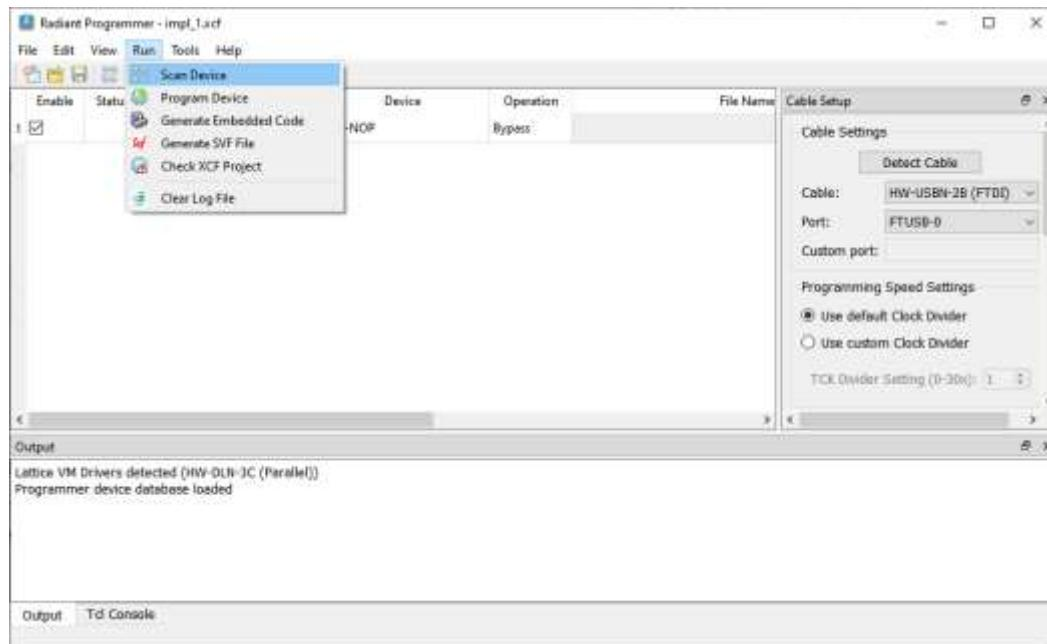
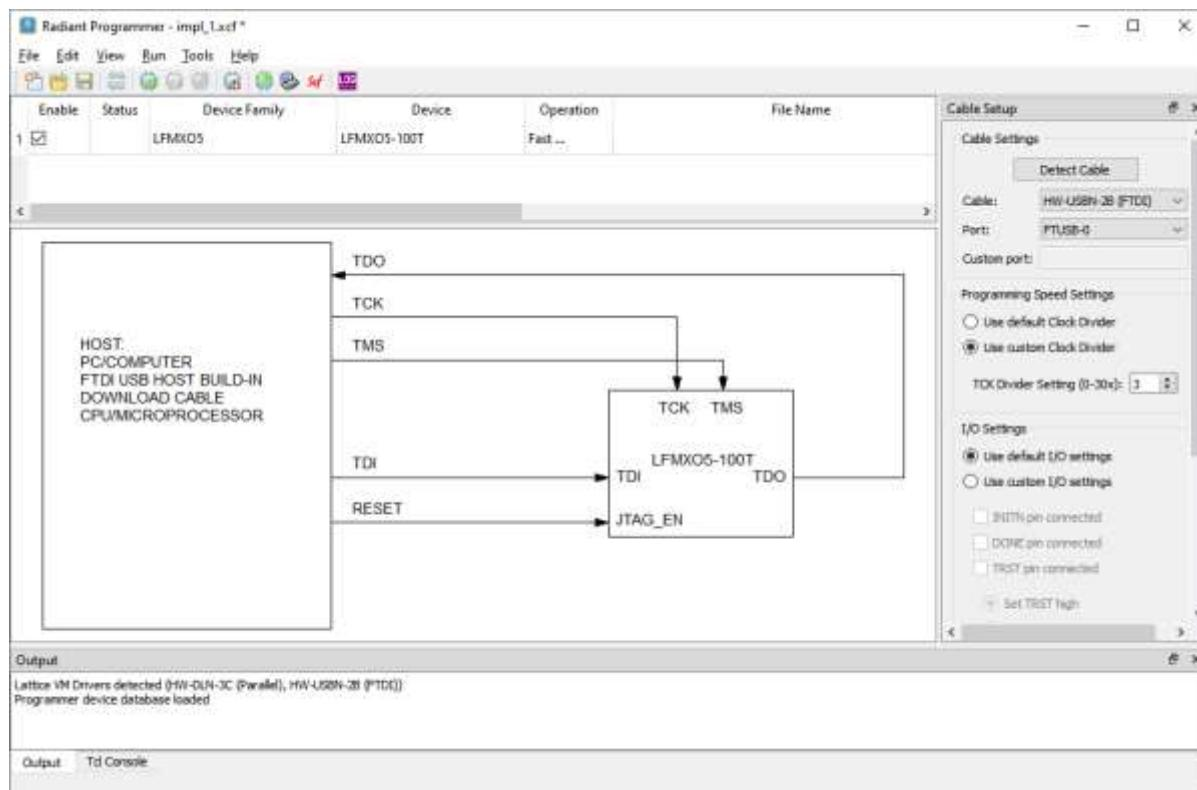

Figure 11.3. Radiant Programmer – Scan Device
Figure 11.4. Radiant Programmer – Device Detected
- Click **Run > Scan Device** to check the board through FTUSB-0 Port of embedded HW-USBN-2B(FTDI) cable, as shown in Figure 11.3. The MachXO5-NX device named as LFMXO5-100T should be detected on the JTAG chain as shown in Figure 11.4.
- Change the **Programming Speed Settings** in the **Cable Setup** pane on the right. Check the **Use custom Clock Divider** option to increase the **TCK Divider Setting** to 3 or above, as shown in Figure 11.4.